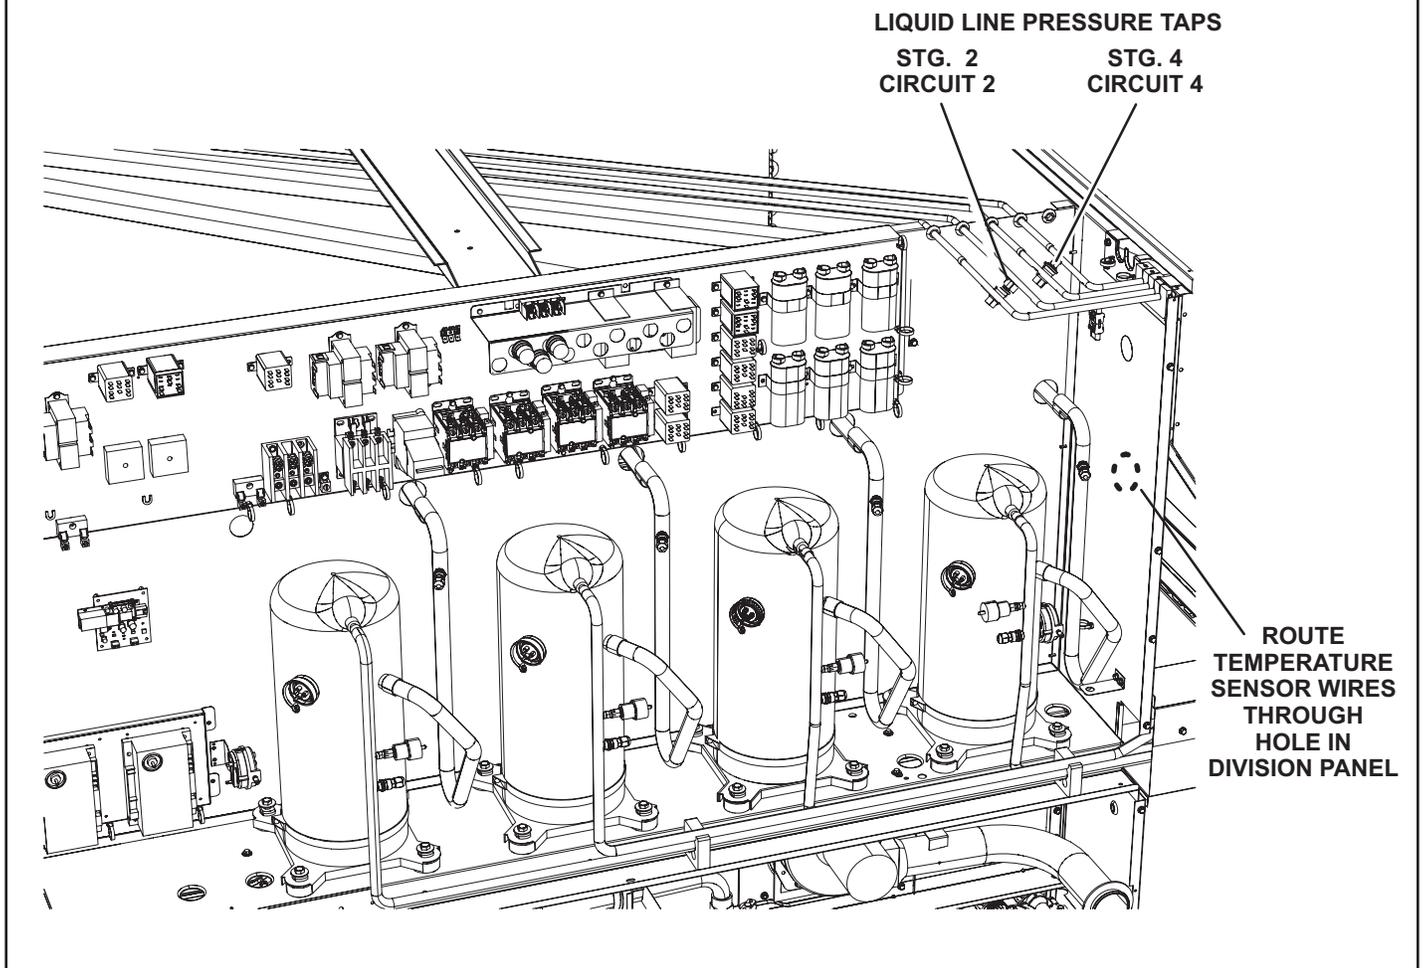

FIGURE 2
- 6 - Install the pressure transducers on compressor 2 (stg. 2) and compressor 4 (stg. 4). liquid line pressure tap as shown in FIGURE 2.
- 1 - Route temperature switch wires through the division panel between the compressor and outdoor coil sections. See FIGURE 2.